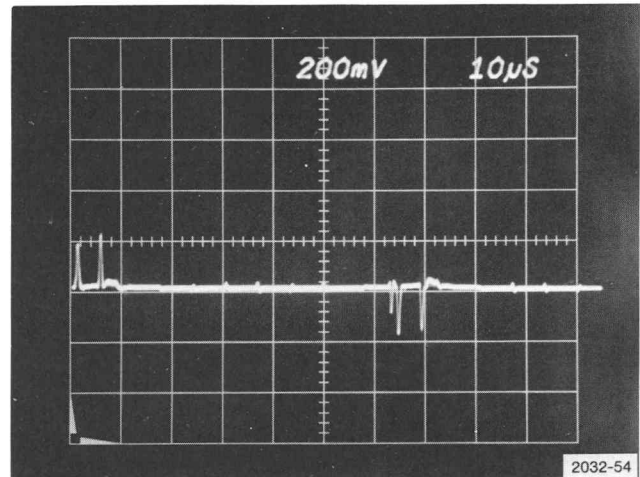
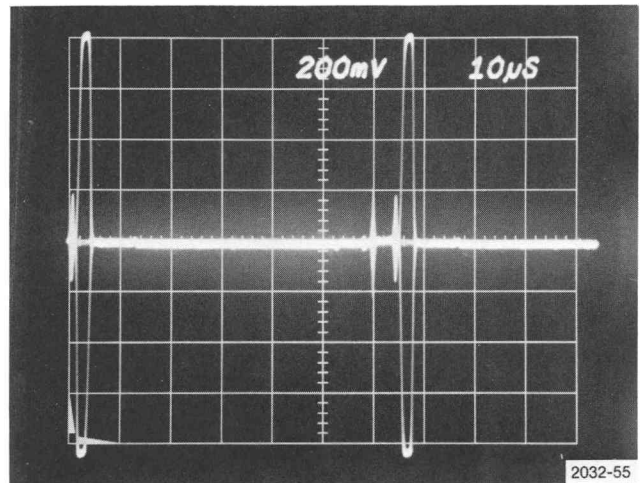

Fig. 4-24. 1420—Differential Phase setup.
Fig. 4-25. 1421, 1422—Differential Phase setup.
b. Rotate the PHASE control for minimum amplitude of the demodulated subcarrier. See Fig. 4-24 or Fig. 4-25.